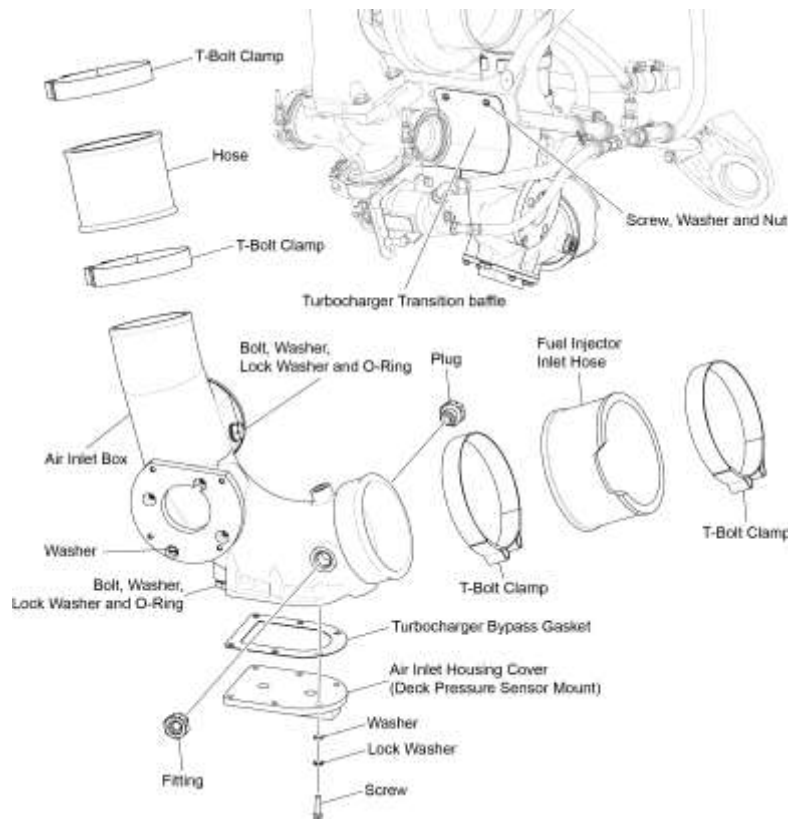

Figure 2
- D. Examine all flexible hoses in the induction system for brittleness which can be evidence of wear. Replace worn hoses. Make sure all connections in the induction system are tight and do not have any leaks (Figure 2).